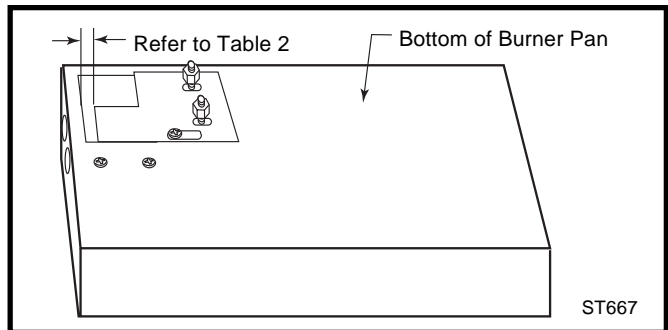

Fig. 43 Adjust air shutter on bottom of heater, Refer to Table 2 for correct position.
16. Air shutter adjustment. The unit is shipped from the factory with the air shutter open 1". For LP units only, the air shutter could be closed further. Refer to Table 3 for minimum air shutter opening. The air shutter is located on the bottom of the burner to the left. (Fig. 43)
Replace glass only with Vermont Castings approved parts. Refer to Page 25 for Replacement Parts. Refer to Figure 43 for removal of the damaged glass frame.